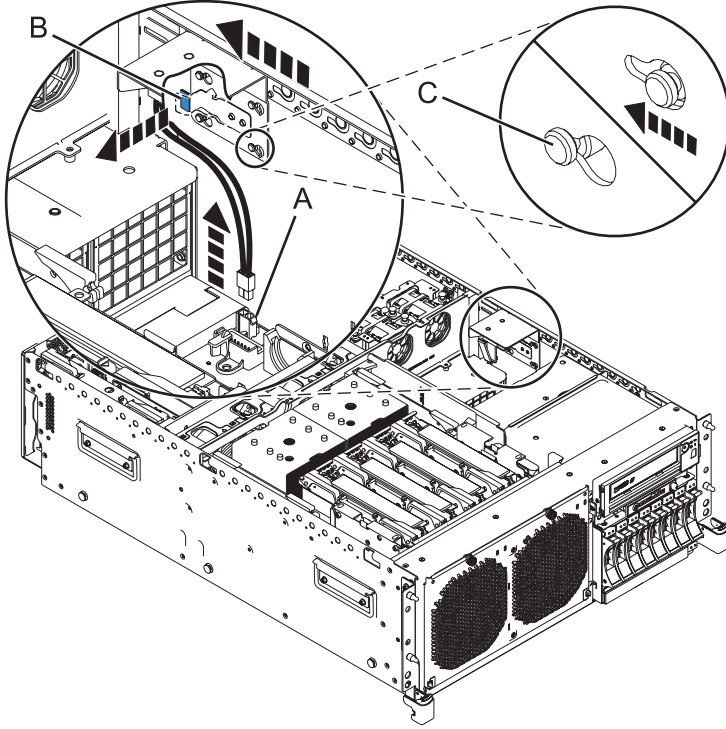
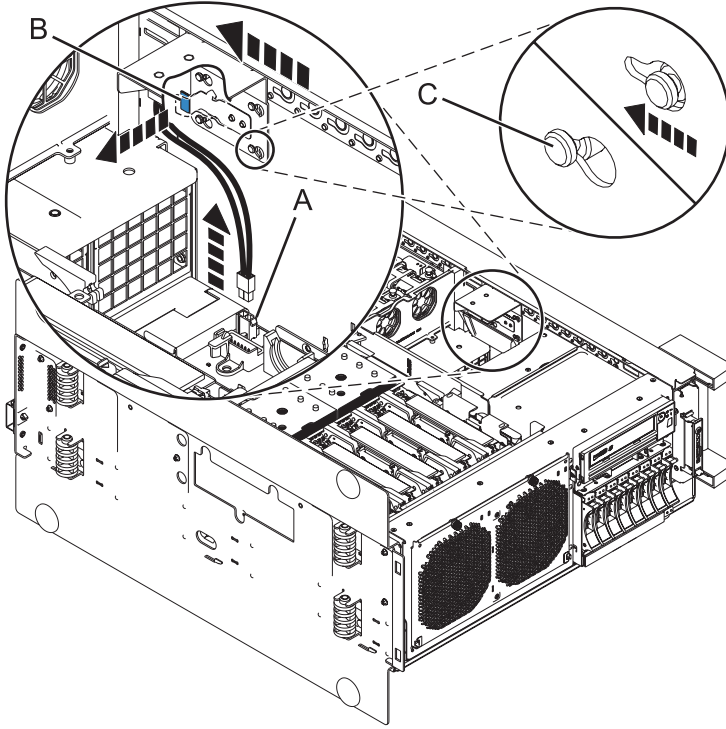

Figure 1. Removing a power interlock switch from a rack-mounted system
Figure 2. Removing a power interlock switch from a stand-alone system
7. Disconnect the signal cable from its attached location to the system board (A), as shown in Figure 1 on page 3 and Figure 2 on page 3.
8. The power interlock switch is attached to the inner right wall of the chassis. Pull the blue locking tab (B) under the switch and gently slide the mechanism rearward to unlatch it from its screw holds (C).